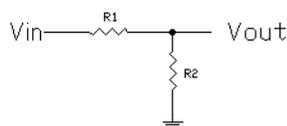
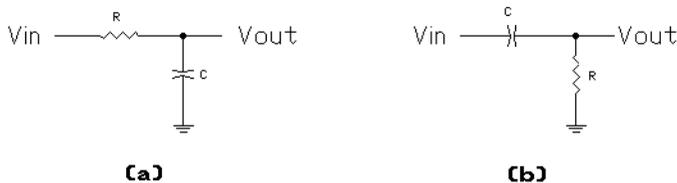

Fig. 20-1. Resistive voltage divider
Fig. 20-2. (a) Low-pass and (b) High-pass RC filters
Two resistors, connected as in Fig. 20-1, make up a voltage divider circuit. If the input voltage is V_{in} , the output voltage V_{out} is expressed as
Fig. 20-2 shows two other circuits which are configured the same way, but which substitute a capacitor instead of one of the resistors. We still use the same equation, except that we substitute the word impedance instead of resistance, like this:
At high frequencies the capacitor in the low-pass filter of Fig. 20-2 (a) looks like a short circuit, and therefore shorts the output signal, not letting high frequencies through. In the high-pass filter of Fig. 20-2 (b), on the other hand, the capacitor at low frequencies acts like an open circuit and does not let the signal go from the input to the output.
Let's look at a simple example. Suppose at the corner frequency, R is 1000 ohms, and X_C is also 1000 ohms. Back in Fig. 20-1, we saw that, when the two resistors have the same 1000-ohm resistance, the gain is $1/2$. If the impedances of the components in the two filters in Fig. 20-2 are also equal to 1000 ohms, what is the gain now?
Suppose a low-pass filter circuit, as shown in Fig. 20-2 (a), uses a 1590-ohm resistor and 0.1 μF capacitor. The corner frequency is therefore
(1) The above example dealt with a low-pass filter. The RC high-pass filter would be done exactly the same way, except that the graph would be a mirror image, as in Fig. 20-2 (a).
(2) This procedure only works well with logarithmic graph paper. If you try to use standard linear graph paper, the dropoff will not be a straight line, but will be curved. It is then hard to draw the right slope.
(3) The part of the curve that slopes downward is called the *skirt*.